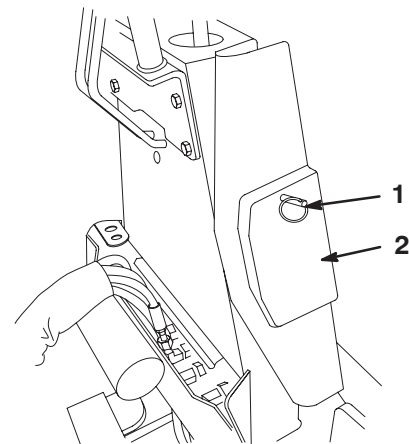

Figure 24
6. Secure the clamp to the backhoe by inserting the end of the pin through the clamp into the hole in the side of the control tower (Fig. 24 for Dingo 200/300 series traction units. The Dingo TX has a shorter pin through its clamp).